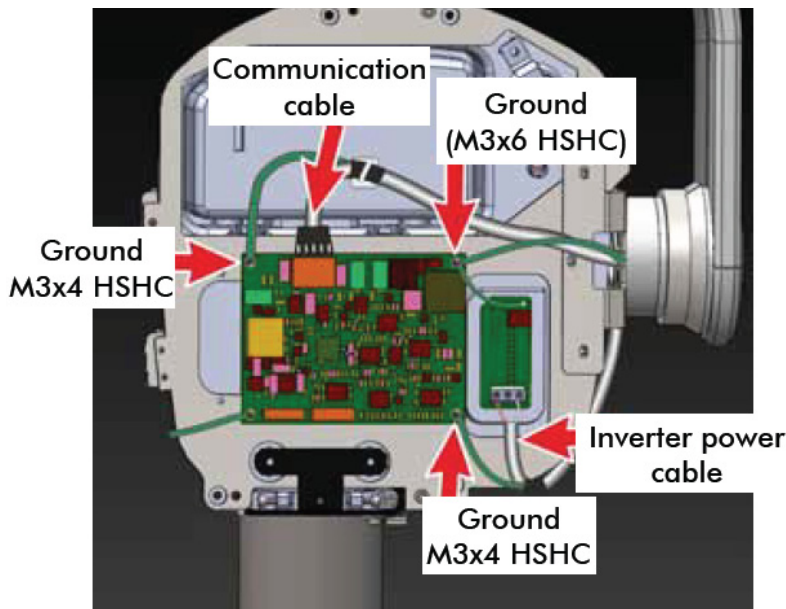

Figure 30
- Press the connector locking tab and pull the cable connector (communication cable) connected to J4 connector of the control board as shown in the Figure 30.
- Disconnect the INV power cable from the sealing board 3 pin connector -pins 1 & 3 as shown in the Figure 30 (hold the connector firmly by hand while removing) using Jewel screw driver.
- Remove the screws used for GND wire connections for both cables at 3 corners of the Control board using 2.5MM allen key as shown in Figure 30 and put back the screws in its location.